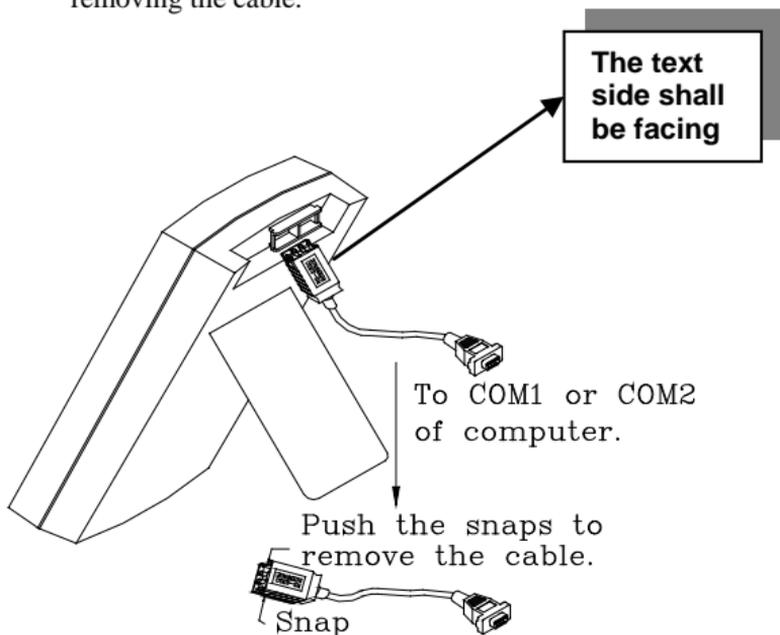

Figure-8. Cable Connection Of Communication
1. Fixes one side of cable to the meter, and the text side shall be facing up. To connect the 9-pin's terminal of cable to communication port 1 or 2 of personal computer. See the **Figure-8**.